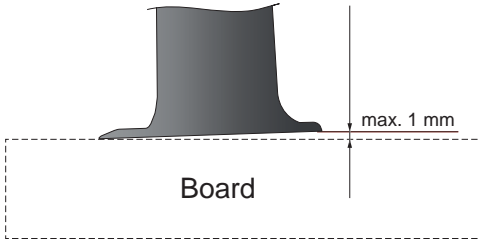

Figure 3.3: Permissible unevenness
- Check that the board and the kitefoil are lying flat together. See figure 3.3.